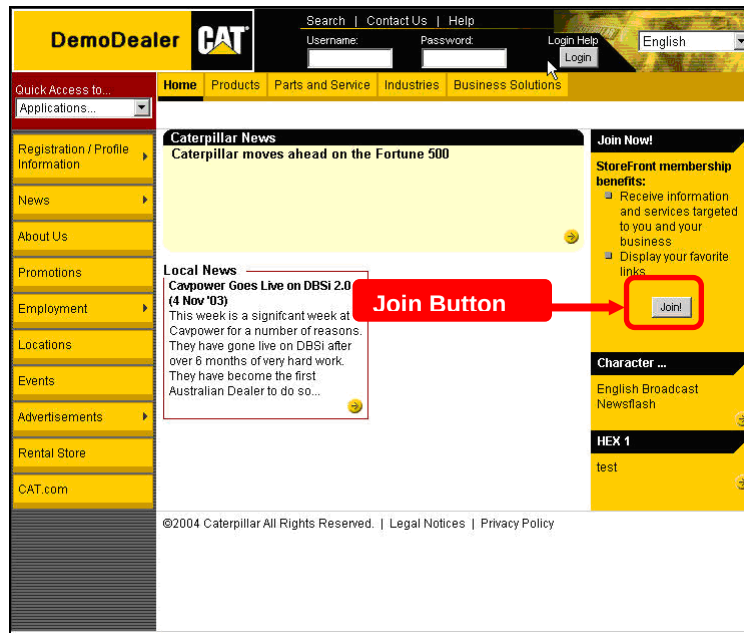

Figure 1: Dealer StoreFront Home Screen
- From the 'Dealer StoreFront Home' screen, click 'Join.' (Figure 1)